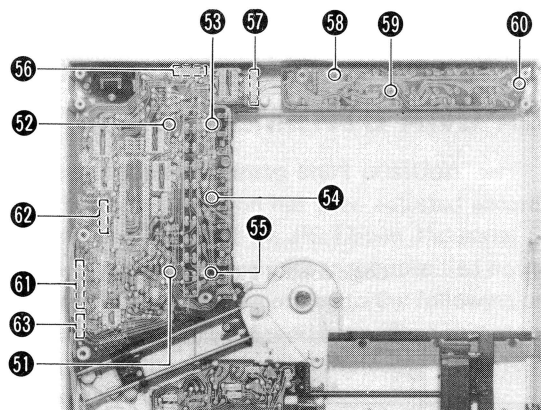

Fig. 15
2. Remove the logic control P.C.B. setscrews 51 ~ 55. (See Fig. 15)
3. Remove the connector 56 (CN204) and 57 (CN401) of the logic control P.C.B.; remove the setscrews 58 ~ 60 of the operation P.C.B. then the operation P.C.B. can be removed. (See Fig. 15)
5. Remove the connectors 61 (CN404), 62 (CN405) and 63 (CN403) of the logic control P.C.B. (See Fig. 15)